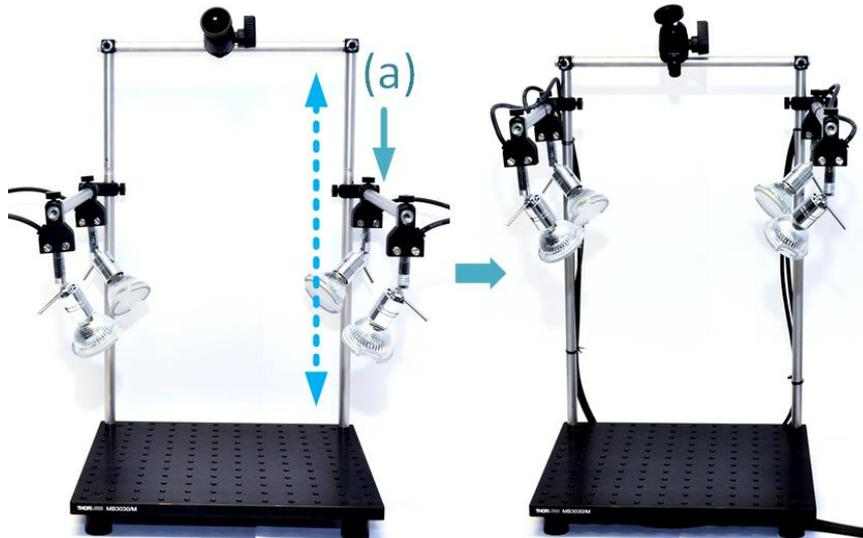

Figure 31 Adjust height of lamps depending on application needs (Step 4.5)
Step 4.5 Adjust the height of the lamp posts (Figure 31)
- a. The height of the lamps can be adjusted by moving the lamp holding posts up and down along the vertical posts (as indicated by red arrow in Figure 31)
The recommended height is shown in Figure 31. You can choose a suitable height depending on your application needs.